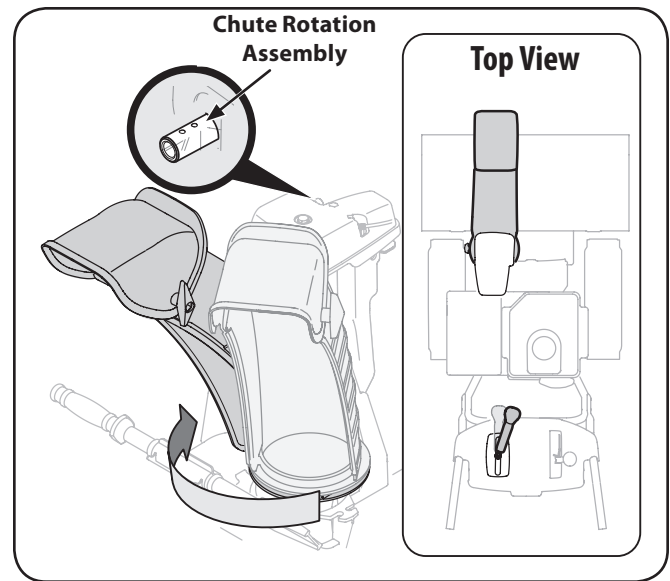

Fig. 3-6
4. Squeeze the trigger on the joystick and rotate the chute by hand to face forward. The holes in the chute rotation assembly will be facing up. See Fig. 3-6.
NOTE: The joystick will be angled slightly to the right at the one o'clock position. See "Top View" in Fig. 3-6.